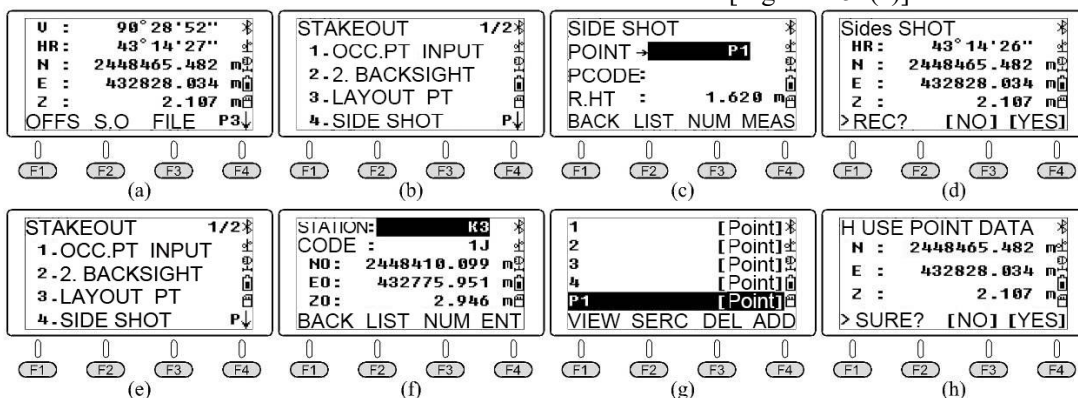

Figure 2-54 Execute command "S.O-SIDE SHOT-MEAS" in the function menu on page P3 of Coordinate Measurement to measure and save traverse point P1
In the function menu on page P3 of Coordinate Measurement [Figure 2-54(a)], press (S.O) to enter the menu "Stakeout 1/2" [Figure 2-54(b)]. If there is no visibility between the survey station and the stakeout points, you can execute the command "SIDE SHOT" or "RESECTION" to add survey station points.
In the menu "Stakeout 1/2" [Figure 2-54(b)], press (4) (SIDE SHOT) to enter the interface as shown in Figure 2-54(c). Input the name of the traverse point as P1 to aim the telescope at the center of the prism erected at point P1. Press (MEAS), and the screen will display the coordinates of P1 [Figure 2-54(d)]. Press (F4) (Yes) to save the coordinates of point P1 to the current coordinate file and return to the menu of "Stakeout 1/2" [Figure 2-54(e)].
Move the instrument to point P1 and place it well. In the menu "Stakeout 1/2" [Figure 2-54(e)], press s (1) (OCC.PT INPUT) (F2) (List) to enter the interface of name list of known points and coordinates of the current file. Move the cursor to point P1 [Figure 2-54(g)] and press (ENT) to find that the screen displays the coordinates of point P1 [Figure 2-54(h)]. Press (F4) (Yes). The further setting methods are same as command "OCC." in the function menu on page P2 of Coordinate Measurement.